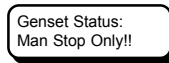

Figure 39
-  NOTE: If the genset is manually started from the RC7GS remote, a manual override is initiated and it will not shut down automatically. "Man Stop Only!!" (Figure 39) will be displayed in the LCD. Shut down the genset manually as previously described.